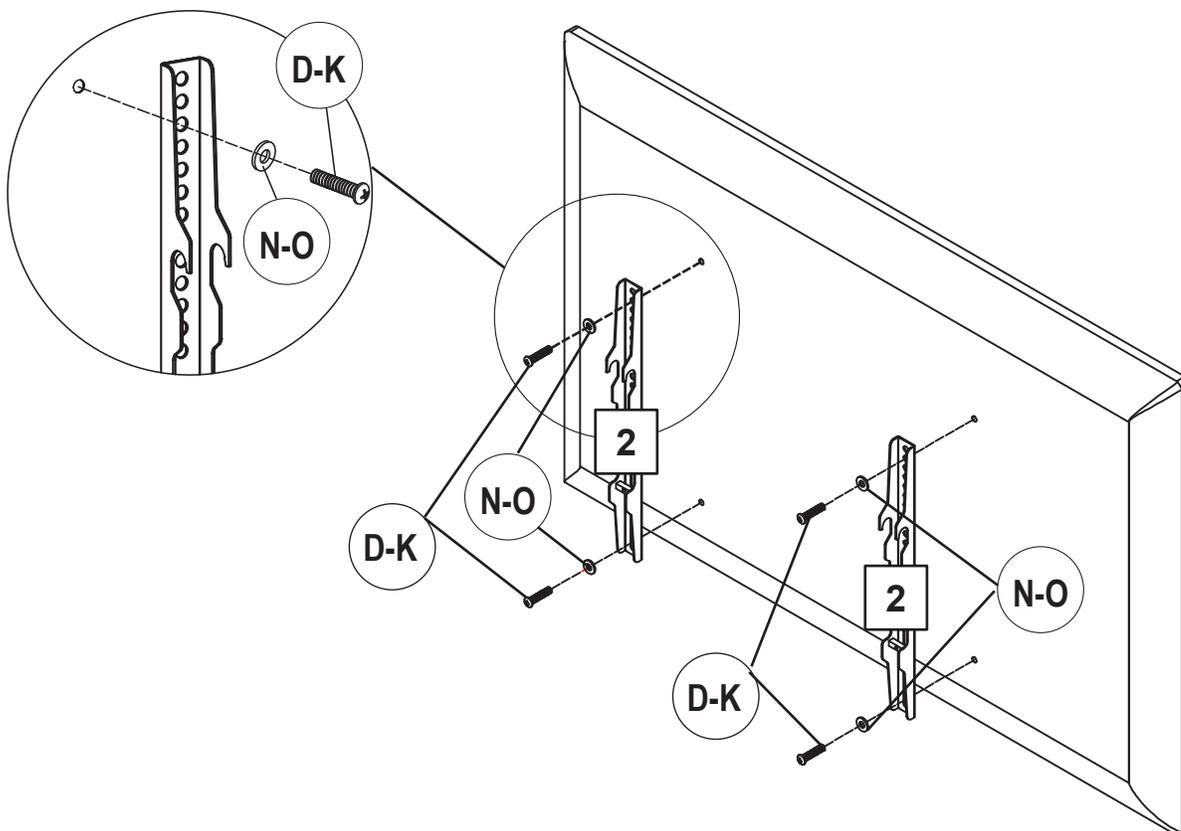

Fig. 1a
Attach the **Brackets (2)** to the rear of the TV using four of the **Bolts (D-K)** with the proper size **Washers (N-O)** as shown in Fig. 1a. Make sure to use the same bracket holes for each side to insure the **Brackets (2)** are centered top-to-bottom. Tighten using the **Allen Wrench (4)**. Do not over tighten.